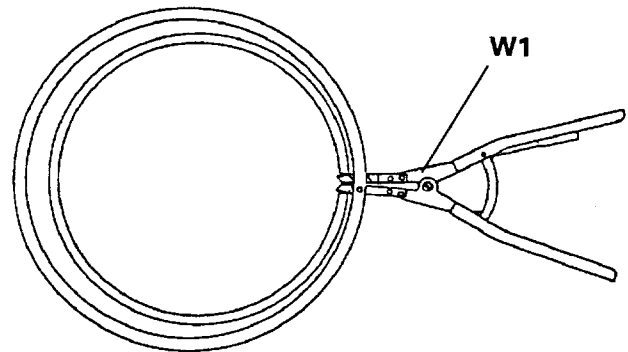

Fig. 1
- 1.4 Remove piston rings only with the correct tool (W1). Mark the rings to maintain their position on assembly (Fig. 1).